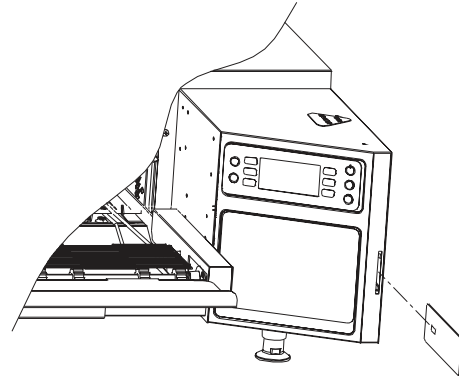

Figure 25: Updating Firmware
1. Insert the gray smart card (see Figure 25) with the gold chip facing the front of the oven. If multiple smart cards are required, they will be labeled in sequence - ensure the correct sequence is followed.